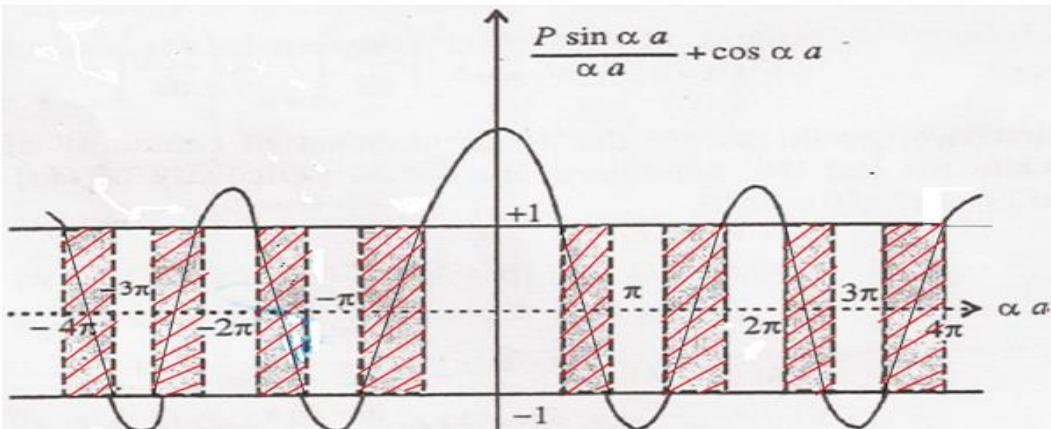

Fig.3: Plot the function $\left(\frac{P \sin \alpha}{\alpha} + \cos \alpha \right)$ for $P=3\pi/2$ where
- Equation (7) is satisfied only for those values of α for which left hand side lies between +1 and -1 this is because R.H.S must lie in the range +1 to -1. Such values of α will, therefore, represent the wave like solutions and are accessible. The other values of α will be inaccessible.
- In Fig. 3, the part of the vertical axis lying between the horizontal lines represents the range acceptable. As α^2 is proportional to the energy E, the abscissa (α) will be a measure of the energy